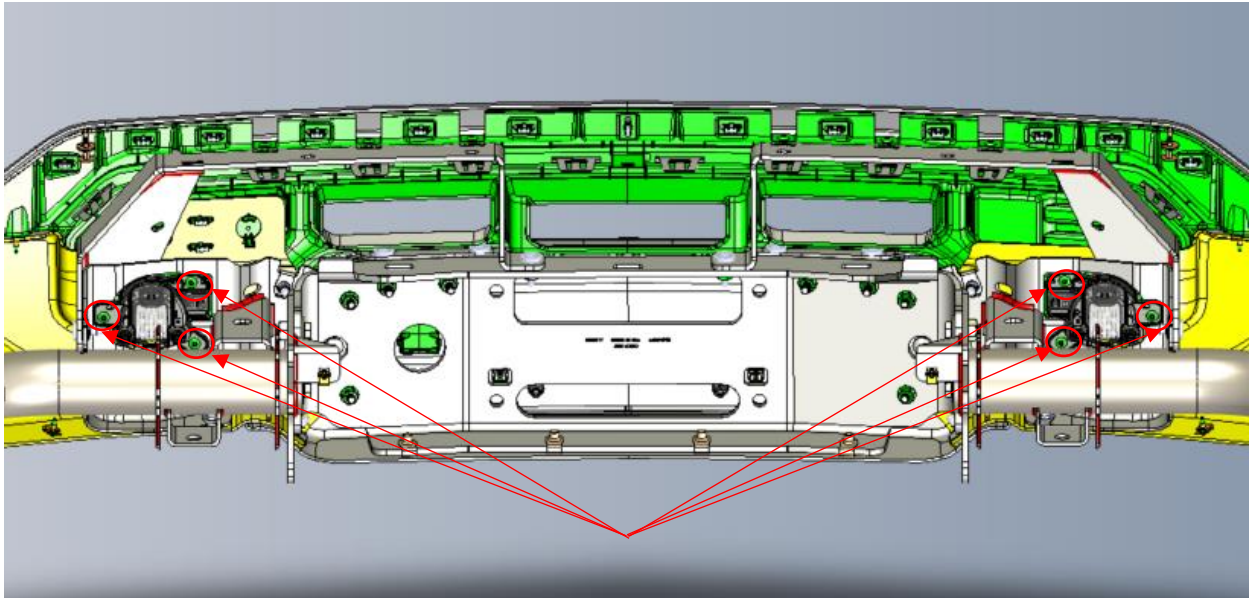

Figure 10 – Backside of AEV GMC Front Bumper
- Using same 6 bolts, re-install factory fog lamps in AEV front bumper – Fig. 10